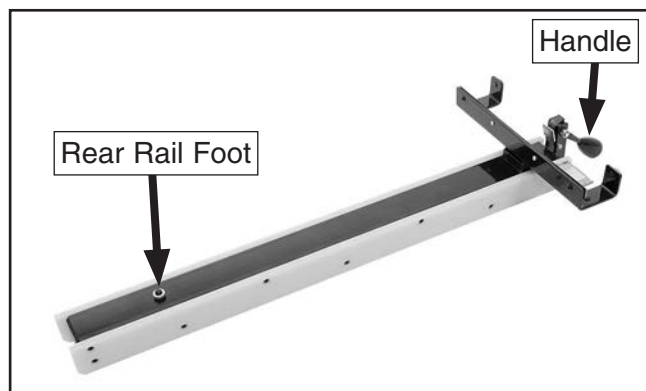

Figure 26. Fence assembled.
- Attach the fence handle to the fence and thread the rear rail foot into the bottom of the fence (see **Figure 26**).